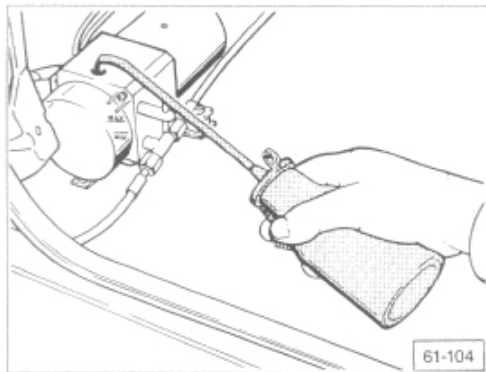

Fig. 12-5. Add hydraulic oil, Volkswagen part no. G 002 500 or equivalent, until level is between marks.
2. Add oil through the filler hole as shown in Fig. 12-5 until the level indicated is between the **MIN** and **MAX** marks.